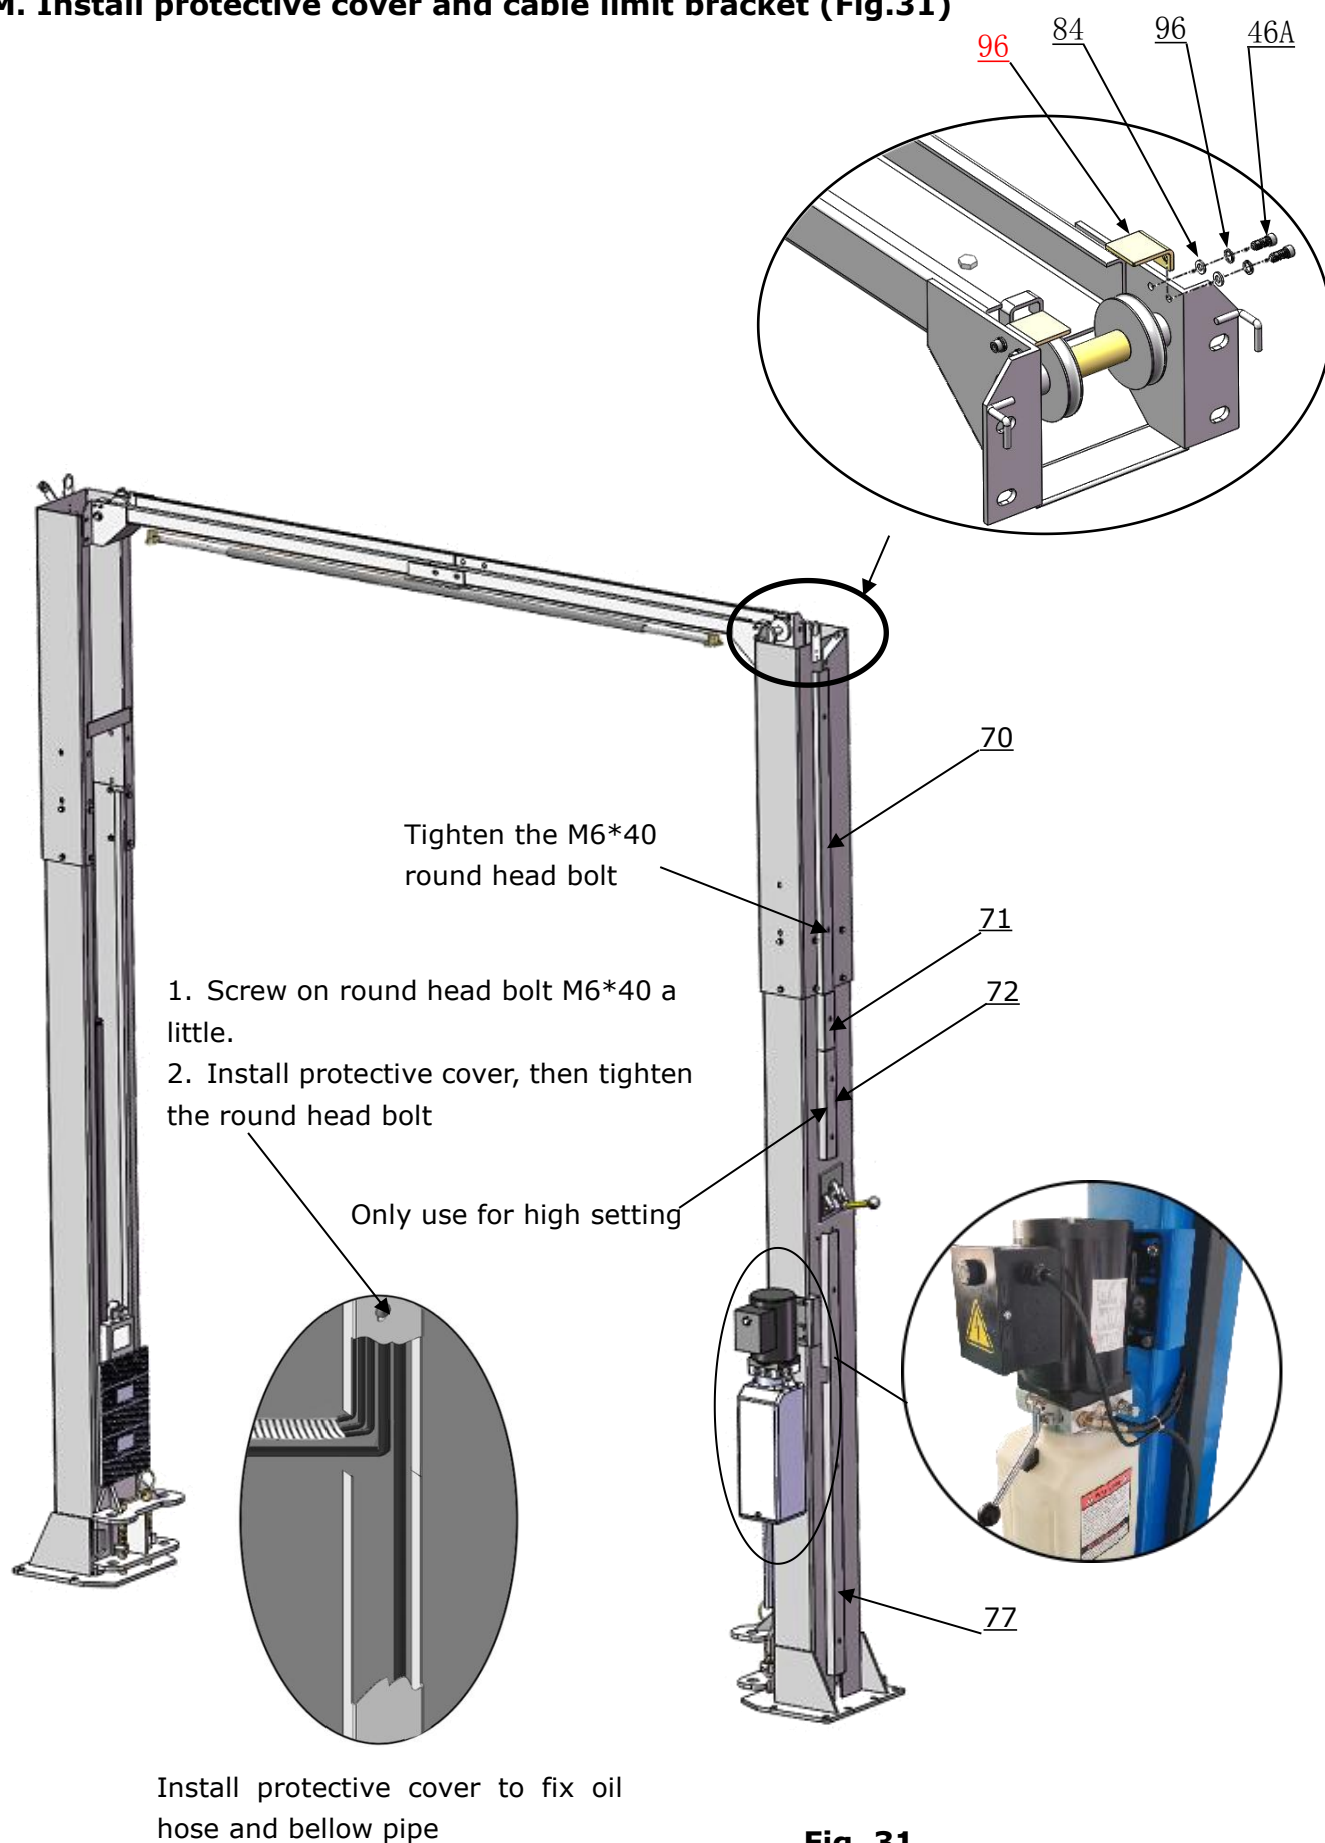

Fig. 31
M. Install protective cover and cable limit bracket (Fig.31)